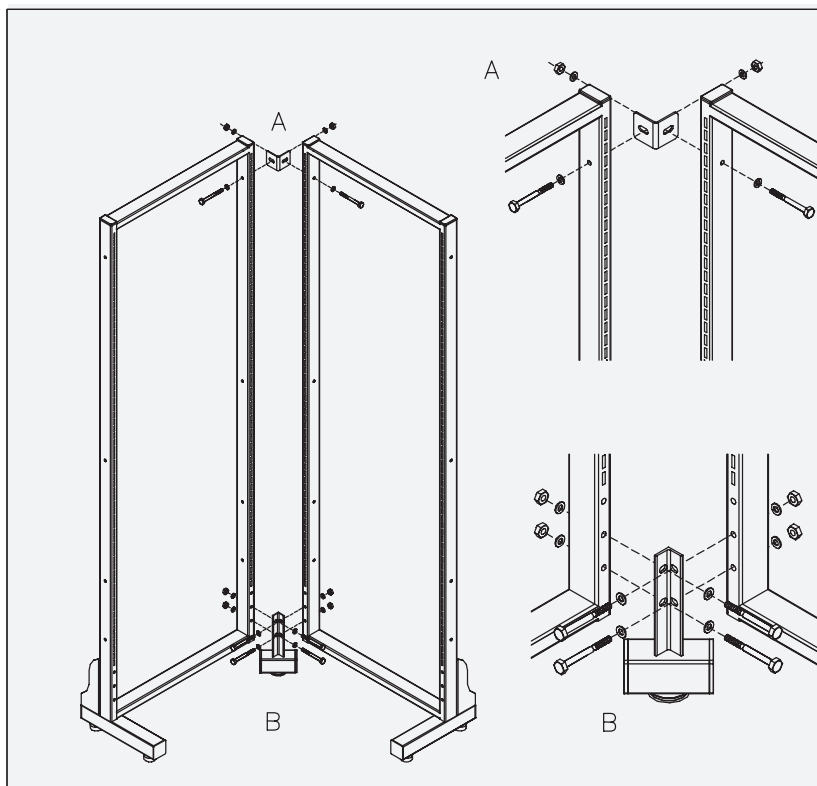

Fig. 16
- Position (2) Corner Frames at a 90-degree angle. Connect the Frames using the Corner Support Kit, which includes (1) "L" Bracket, (1) Corner Support Leg and all necessary hardware to join Frames (Fig.16).